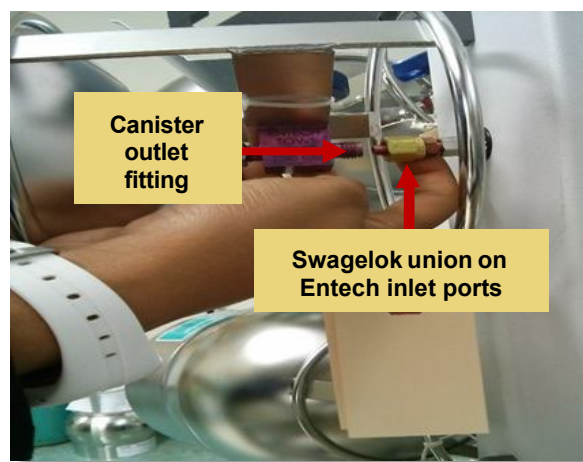

Figure 6. Connecting the canister outlet fitting to the Entech autosampler ports.
1. Load the 7016D autosampler ports 1 through 16 with the pressure-checked canister samples to be analyzed by attaching the ¼-inch Swagelok canister outlet fitting to the Swagelok stainless-steel union on the Entech autosampler inlet port(s) (Figure 6). (Autosampler ports are labeled from left to right beginning at the top row shown in Figure 5.)